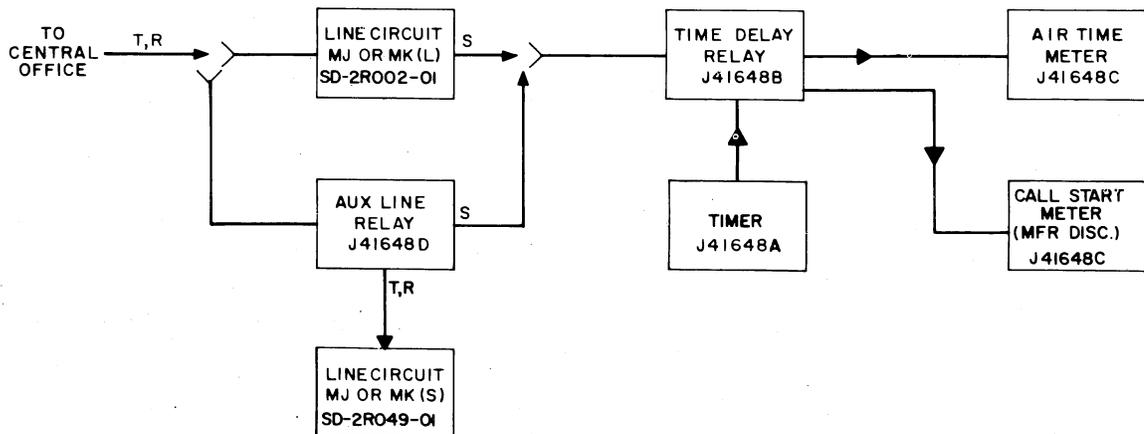

Fig. 1—Block Diagram of Air Time Circuit
**1.01** This specification, together with the supplementary information listed herein, covers the equipment design requirements to be used in the engineering and installation of the MJ and MK Mobile Telephone System air time circuit. The air time circuit permits the measurement of individual customer air time usage. (See Fig. 1.) Each customer line is provided with a register which records the line-busy time in tenths of minutes. A delay relay is provided which delays the start of timing for a fixed time, between 15 seconds and 2 minutes. An alarm circuit activates the central office alarm circuits should the timer, which is common to all air time registers, fail to operate. The equipment is designed for relay rack mounting near the control terminal.